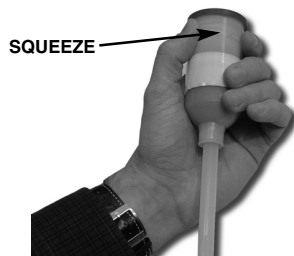

Figure 3
4. Check the mixing rod to ensure that it isn't overly tight or loose. To do this, hold the cartridge with the red end cap facing up and squeeze the cartridge in the area around the plunger. This will hold plunger in place. See Figure 3. Turn counterclockwise slightly to loosen, then clockwise to re-tighten snugly.